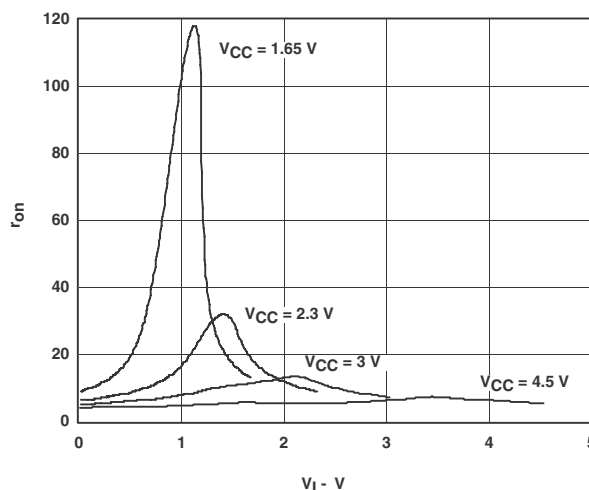
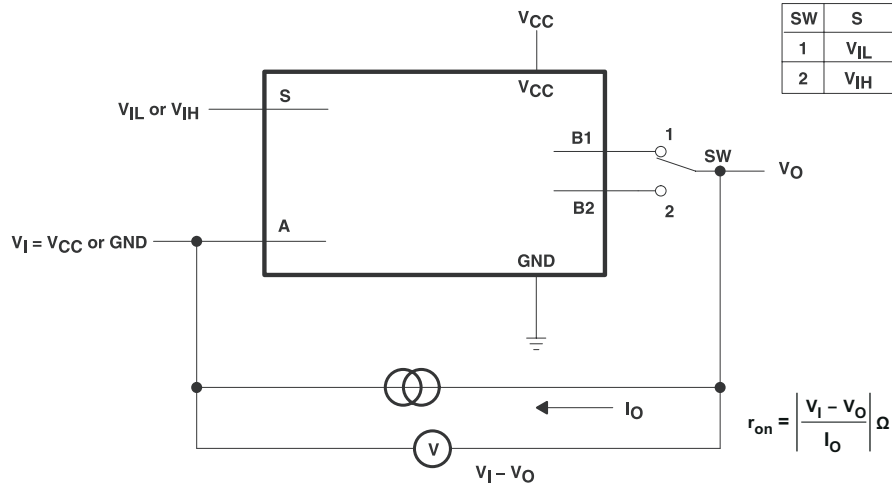

Figure 6-1. Typical r_{on} as a Function of Input Voltage (V_i) for $V_i = 0$ to V_{CC}
Figure 7-1. ON-State Resistance Test Circuit
| r _{on} ON-state switch resistance ⁽²⁾ | See Figure 6-1 and Figure 7-1 | V _I = 0 V | I _O = 4 mA | 1.65 V | 11 | 20 | 11 | 20 | Ω | |
| r _{range} ON-state switch resistance over signal range ^{(2) (3)} | 0 ≤ V _{Bn} ≤ V _{CC} (see Figure 6-1 and Figure 7-1) | I _A = -4 mA | | 1.65 V | | 140 | | 140 | Ω | |
| Δr _{on} Difference of ON-state resistance between switches ^{(2) (4) (5)} | See Figure 7-1 | V _{Bn} = 1.15 V | I _A = -4 mA | 1.65 V | 0.5 | | 0.5 | Ω | | |